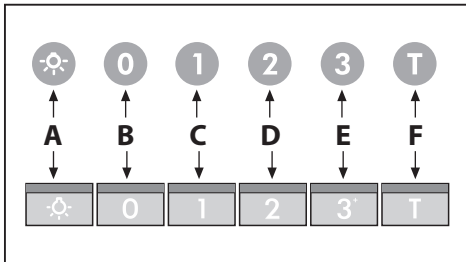

Fig.12
• **Commands luminous (Fig.12)** the key symbols are explained below: